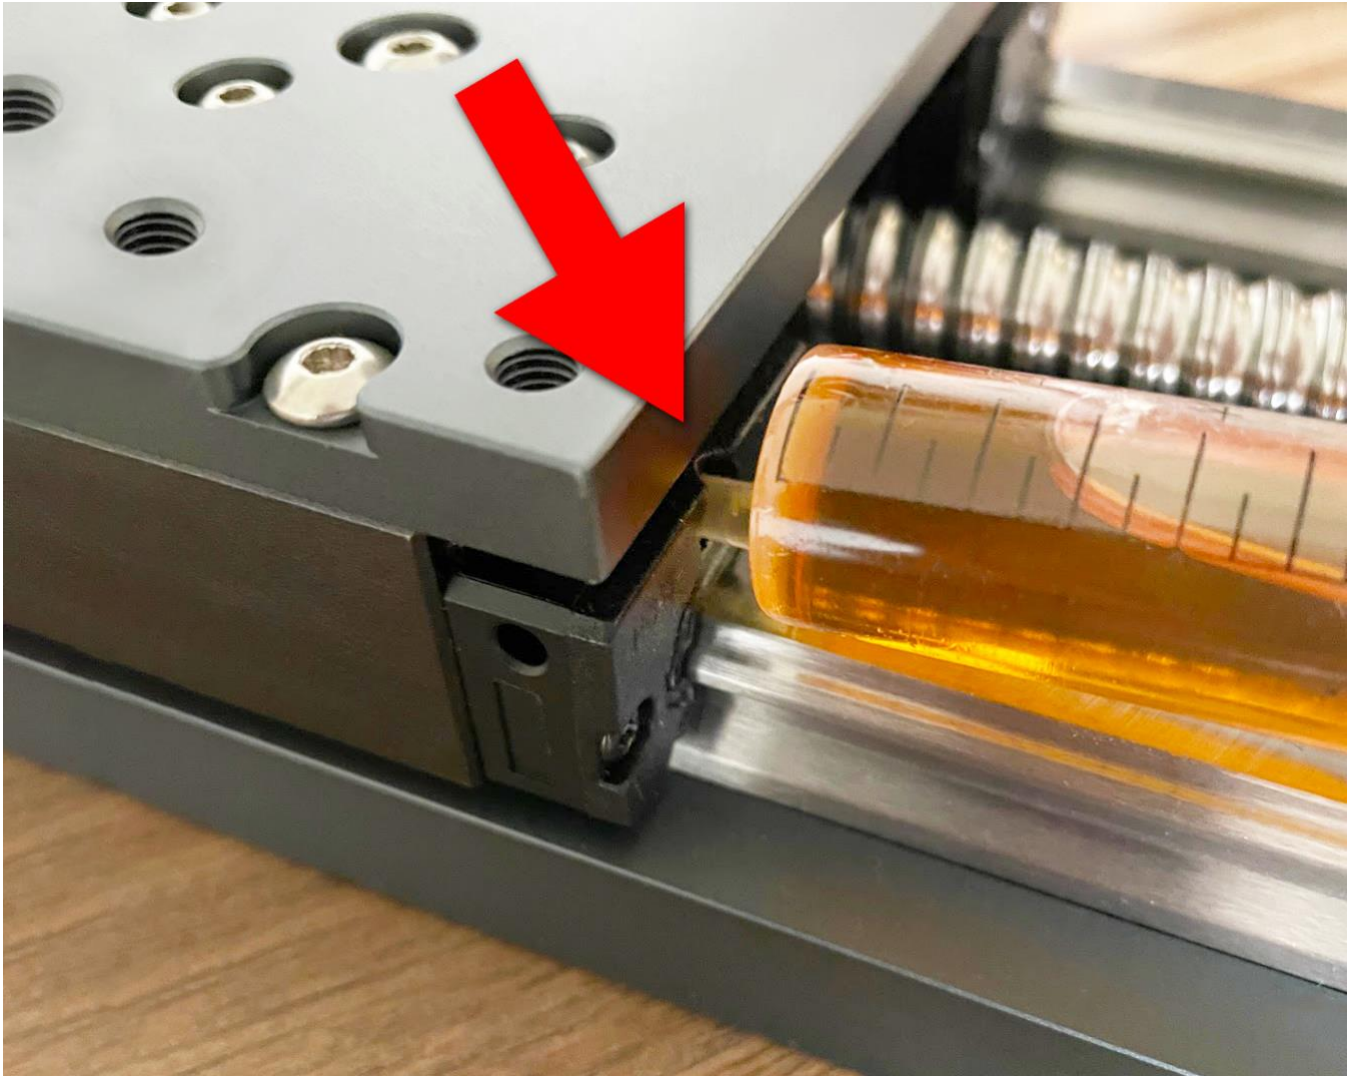

Figure 3
4. Press the tip firmly into the screw hole and gently squeeze about 1ml of oil into the ball bearing carriage. *See Fig. 3.*